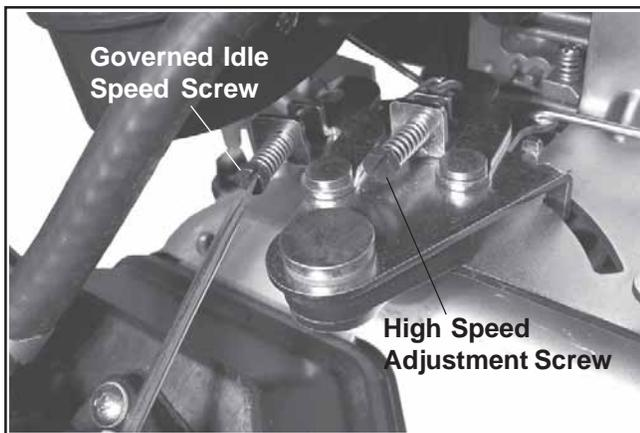

Figure 27. Adjusting Governed Idle Speed Screw.
2. Release the governor lever and check that the throttle lever is in the **idle** position. Turn the governed idle (outer) adjustment screw on main control bracket to obtain the equipment manufacturer's recommended idle speed (1400-1800 RPM). See Figure 27.